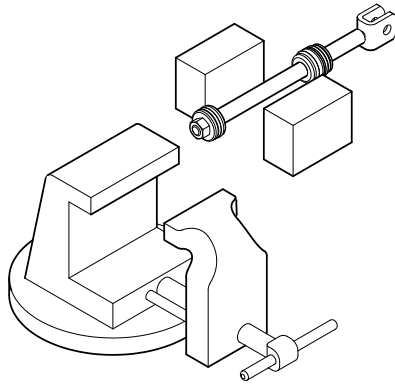

Figure 4-2, Cylinder Shaft
2. Clamp the cylinder lightly at the base end in a soft jawed vise. Use a block or other support under the rod end of the cylinder. (Figure 4-2)